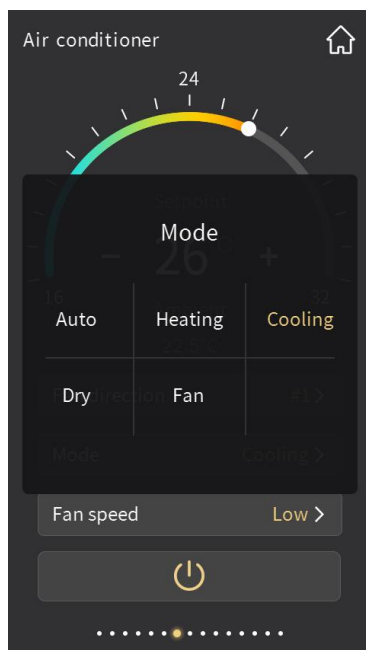
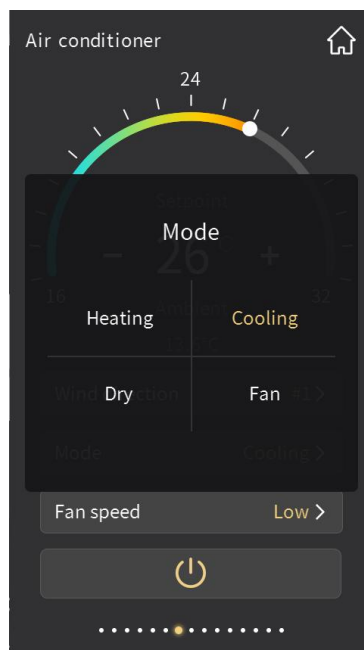

Fig.2.4.4
Fig.2.4.5
**⑧ Enter the mode setting by touching this tile, and will pop up a sub-window shown as Fig. 2.4.4 and Fig.2.4.5;**
Auto mode set to be disable or enable by parameter configuration. When disable, there will be no Auto item shown on the interface, as shown in Fig.2.4.4; when enable, there will be an Auto item shown on the interface, as shown in Fig.2.4.3.
**⑨ Enter the fan speed setting by touching this icon, and will pop up a sub-window shown as Fig.2.4.5;**